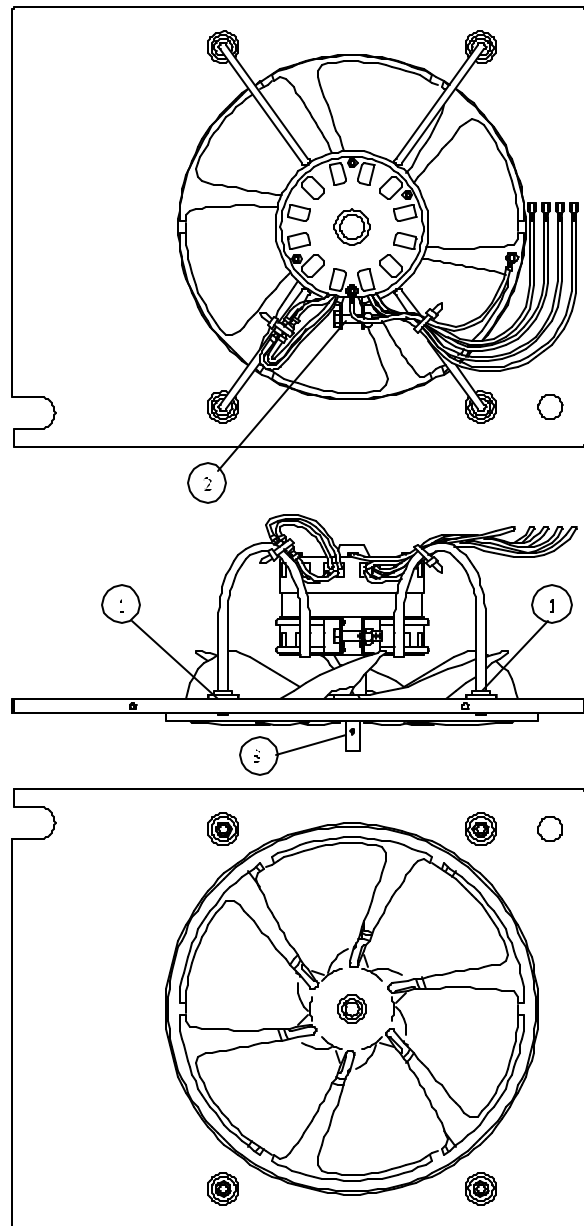

FIGURE 6
4. Loosen motor mount clamp. See Figure 6, #2.
5. Loosen top two (2) motor mount legs to ease tension on the motor. See Figure 6, #1.
6. Loosen fan blade set screw and remove fan blade. See Figure 6, #3.